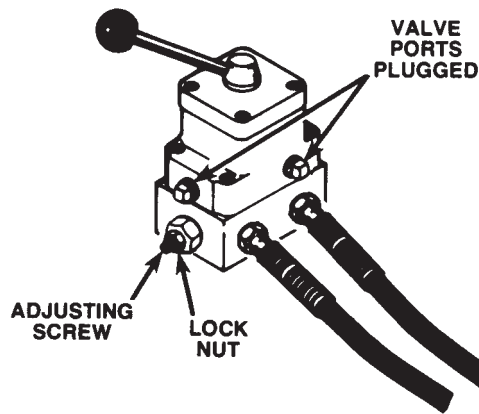

FIGURE 2
- **Place pipe plugs, as shown in Figure 2, in the control valve ports when adjusting the pressure regulating control or fully extend all cylinders.**
1. Loosen lock nut on the pressure regulating valve and turn the adjusting screw counterclockwise to decrease the pressure setting to a lower than desired setting (see Figure 2).